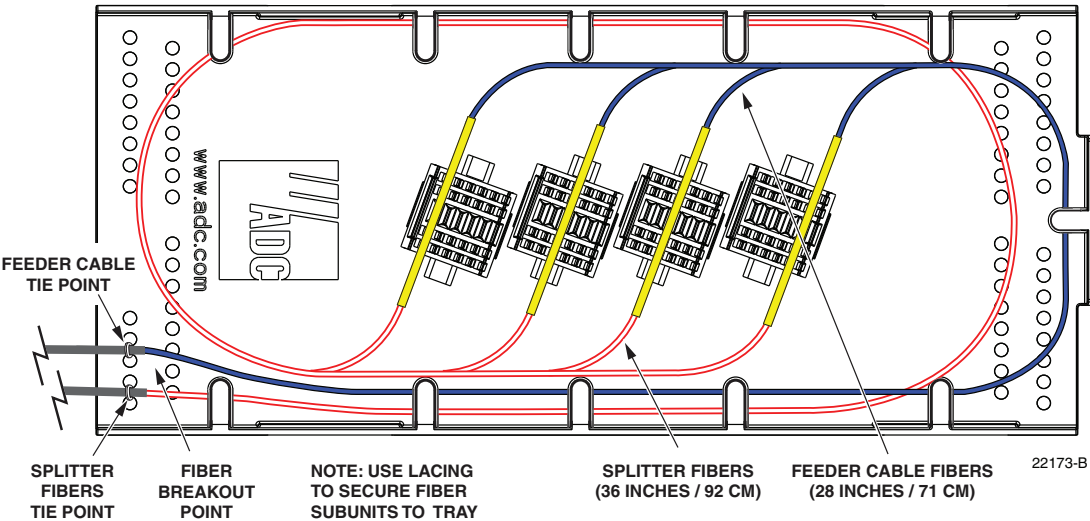

Figure 44. Stranded Fiber Splice Tray - Feeder Cable Splicing
10. Splice the feeder cable fibers to the appropriate splitter fibers as specified by local policies and procedures. Adjust and route the fibers within the splice tray as shown in Figure 44. Refer to Table 4 for the splitter fiber designations.